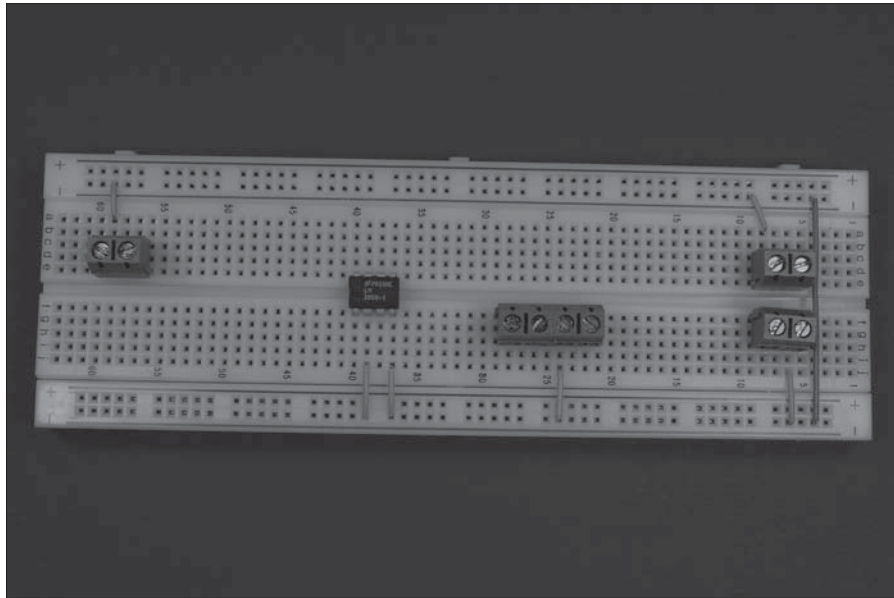

Figure 6-6: Connecting wires to the IC, terminal blocks, and ground buses.
2. Insert wires to connect the IC and the terminal blocks to the ground bus and insert a wire between the two ground buses to connect them, as shown in Figure 6-6.